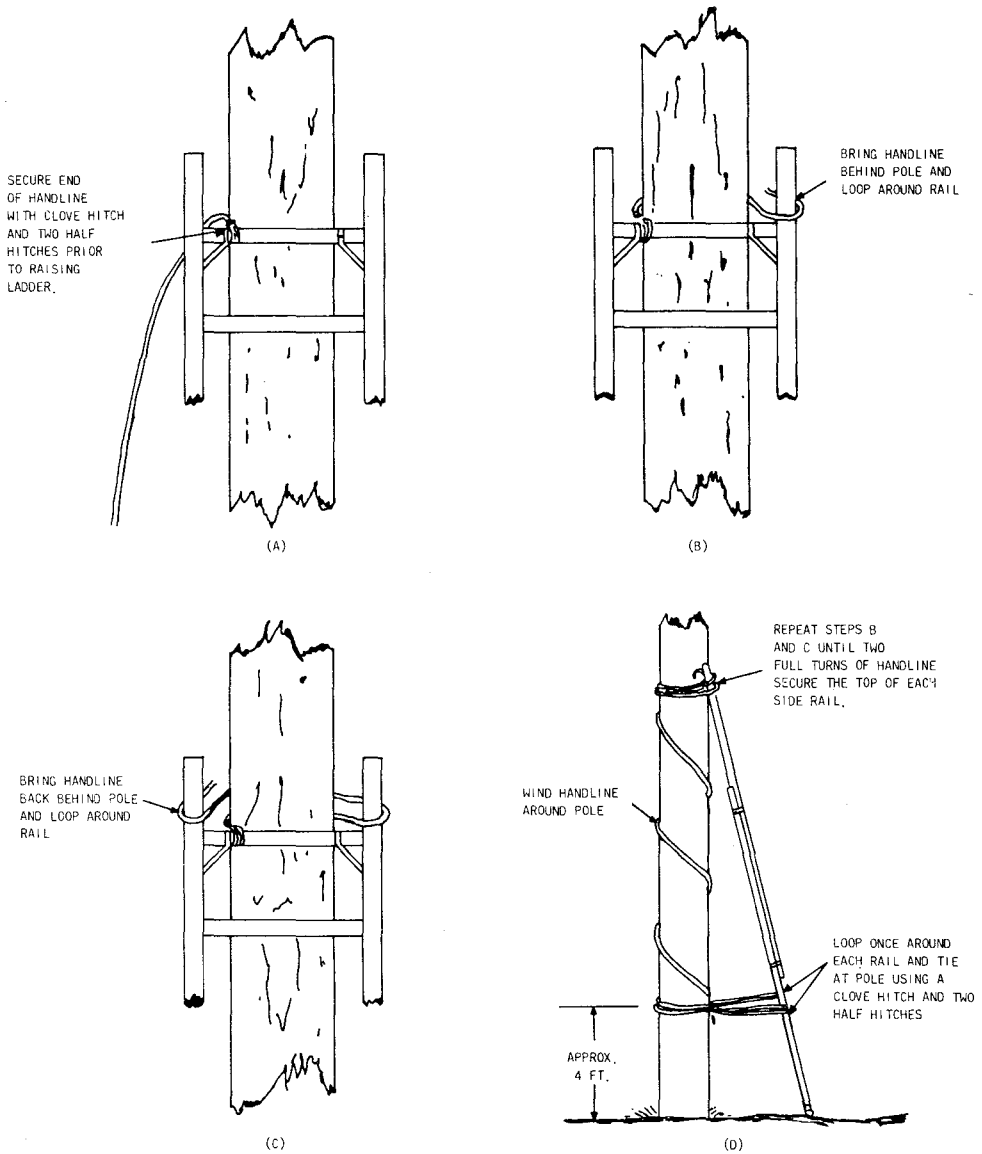

Fig. 37—Alternate Method of Lashing Ladder to Pole
9.12 Figure 37 shows an alternate method for lashing a ladder to a pole. This method makes it possible to lash the ladder prior to climbing.